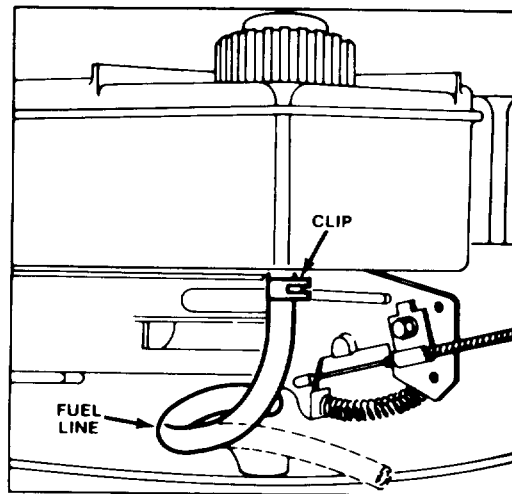

Figure 13
5. EMPTYING BAG—Stop engine and wait for all parts to stop. Move chute door handle forward to engage the locking pin with catch (Fig. 13). Grasp handles at front and rear of bag and lift bag off mower. Gradually tip bag forward to empty clippings.
2. Squeeze ends of clip holding fuel line on fuel tank fitting (Fig. 13). Slide clip down fuel line.